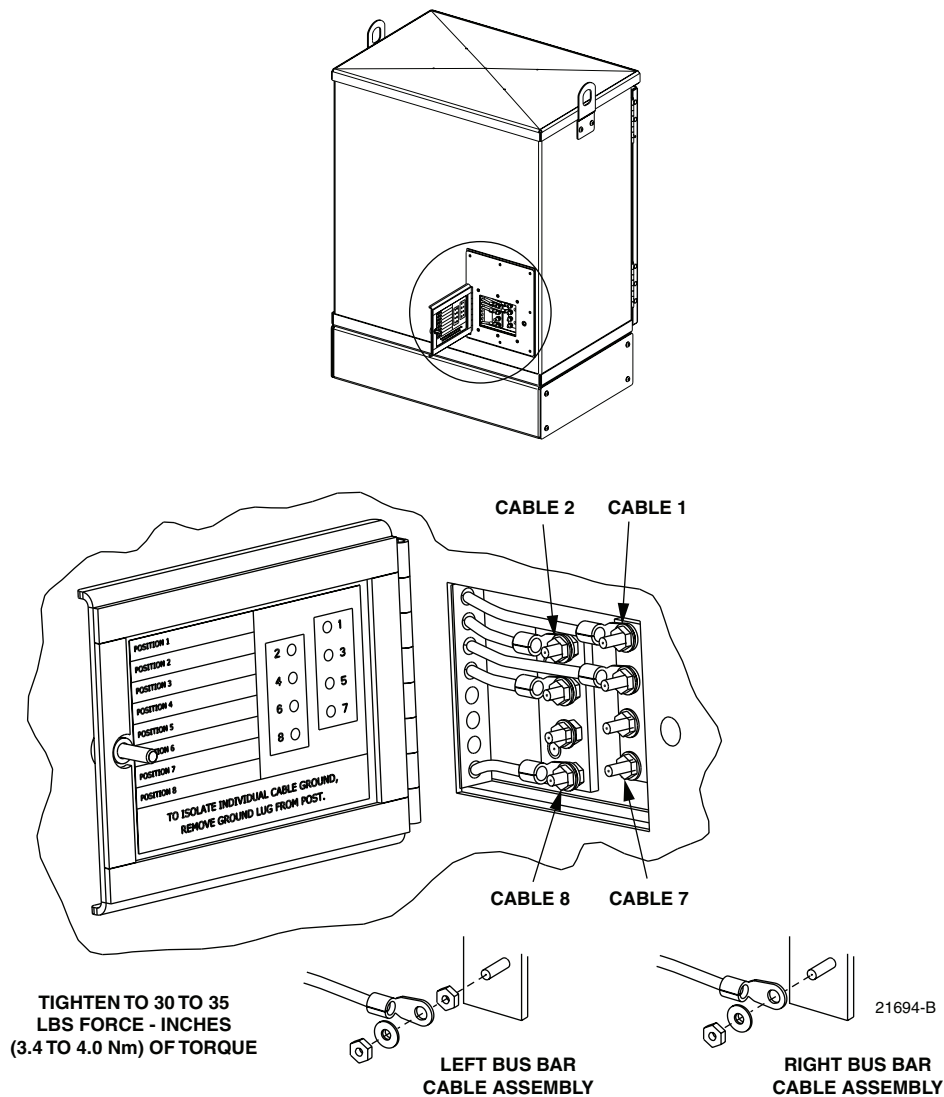

Figure 43. Grounding Block Access Cover
- 18.7.1 Locate the small hinged access cover at the rear side of the cabinet as shown in Figure 43.